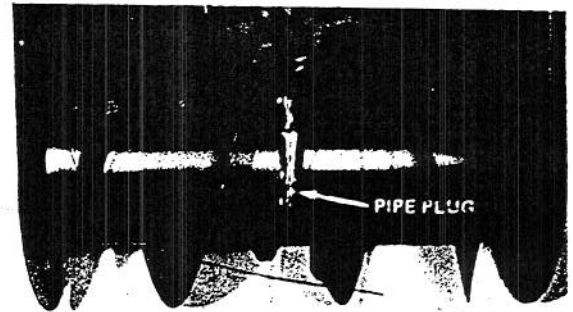

Figure 30
3. Clean area around pipe plug (Fig. 30) so dirt is removed.
4. Put a drain pan below front of auger gear box and remove pipe plug (Fig. 30).
7. Install pipe plug in gear box (Fig. 30).